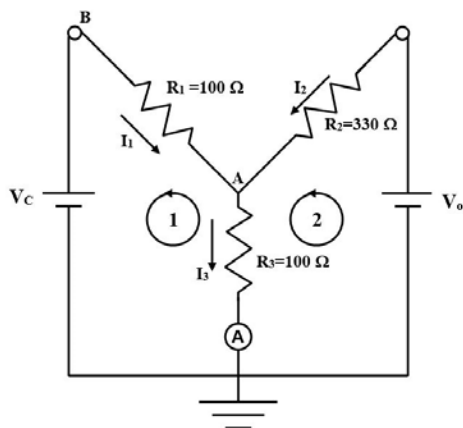
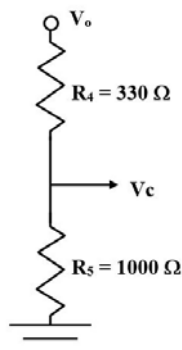
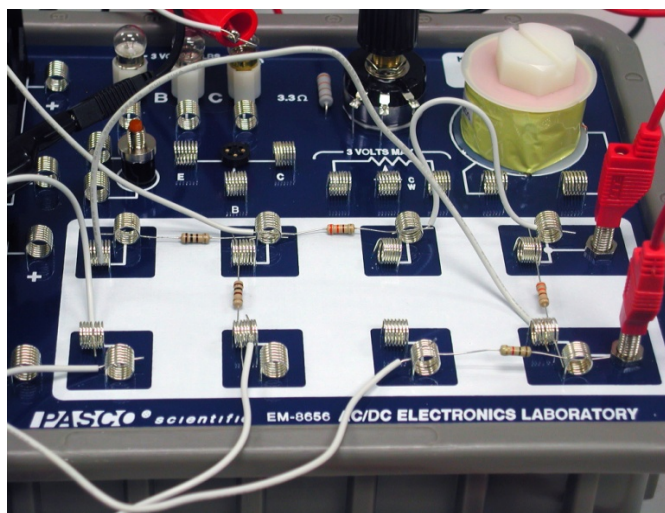

Figure 1: "Y" Circuit
Figure 2: Voltage Divider
Figure 7: Resistor Setup
We will apply Kirchhoff's rules to the "Y" circuit shown in Figure 1. V_o will be the supply voltage from Output 1 of the 850 Universal Interface. V_c will be produced by the voltage divider setup shown in Figure 2. We will not attempt to calculate V_c , but will measure it directly. To solve for the three unknown currents, we need three equations. Applying Equation 1 at point A in the circuit:
- First attach the resistors as shown in Figure 7. Note that the "Y" is on the left and the voltage divider (see Figure 2 on the Theory page) is the two resistors on the right. R_1 is the 100 Ω resistor on the upper left.